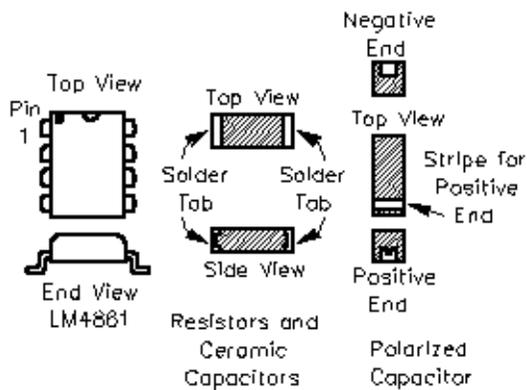

Figure 2—Packaging of some surface-mount components used in the project.
The LM4861 small-outline (SO) package has eight pins spaced 0.050 inches apart: half the pin-spacing width of a standard LM386 DIP. The LM4861's package is well-suited for amateur use because the pins stick out the sides of the package (**Figure 2**) making it relatively easy to line up and solder the part to a PC board. The smallest components are the resistors—roughly 1/8 inch (0.125 inch) by 1/16 inch (0.063 inch). (My eyesight isn't the greatest, so I use an inexpensive, illuminated magnifying glass to see the parts clearly.) Rather than using color-code bands to show the resistor's value as "old-fashioned" resistors do, the ohmic value is printed on the surface-mount resistor package. The means of showing the value is similar to the system used on capacitors today. Thus, 103 is $10 \times 10^3 = 10 \text{ k}\Omega$. Surface-mount capacitors are physically only slightly larger than the resistors and often don't have their values printed on them. At first, I thought I'd purchased defective capacitors, but then recalled that the values are often printed not on the part itself, but *on the packaging strip* that they're supplied in. Polarized tantalum capacitors identify their positive terminals with a stripe and a notch in the metal contact on that side. See **Figure 2**.
Soldering the resistors and capacitors is similar to soldering the chip leads, except the resistors and capacitors don't have exposed leads. See **Figure 2**. I used two methods to solder them in place. For some, I tinned the PC-board pad and the part, then placed the part on the pads and heated the joint to remelt the solder. This works fine for the larger parts, but it's too hard to hold the smaller resistors and keep them from sticking to the soldering iron. So I put them on the board, held them in place with my tuning tool and soldered them.